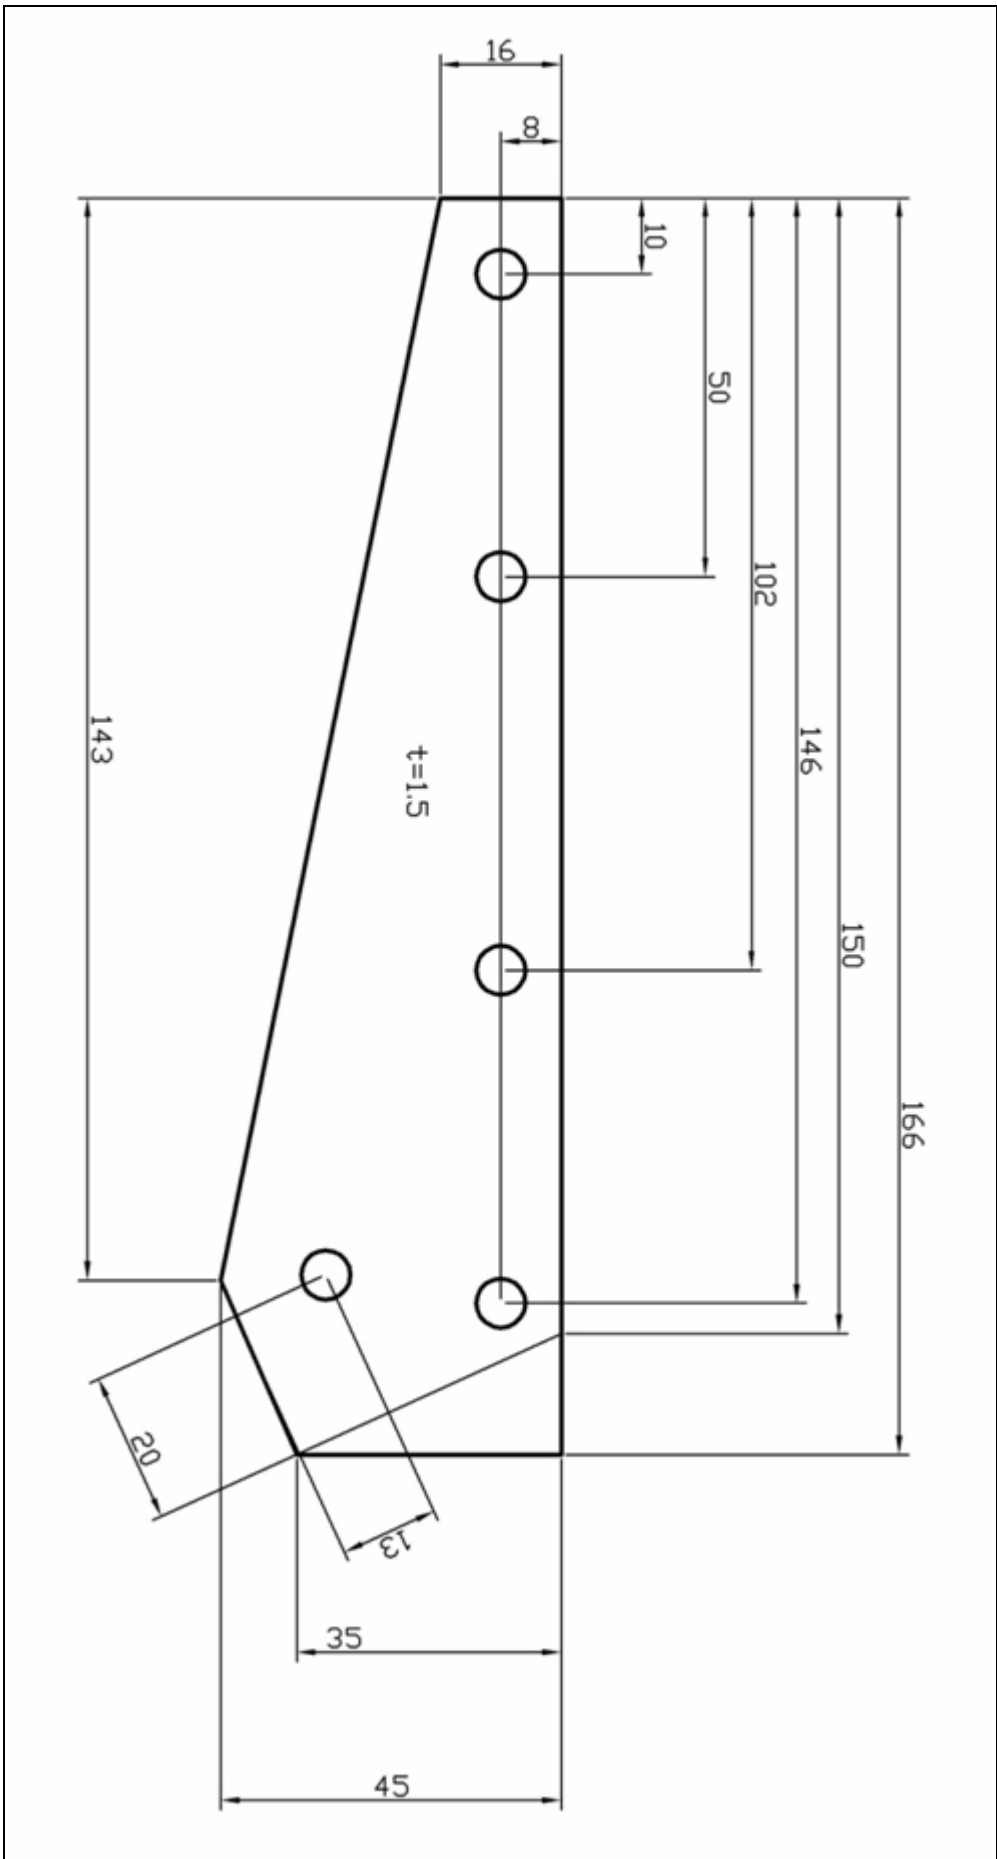

Figure 6
8. Make a 1.5mm thick metal plate, using mild sheet steel (locally purchased), with 6.5mm holes drilled for 5 rivets. Reference Figure 6 (page 4) for actual size template.